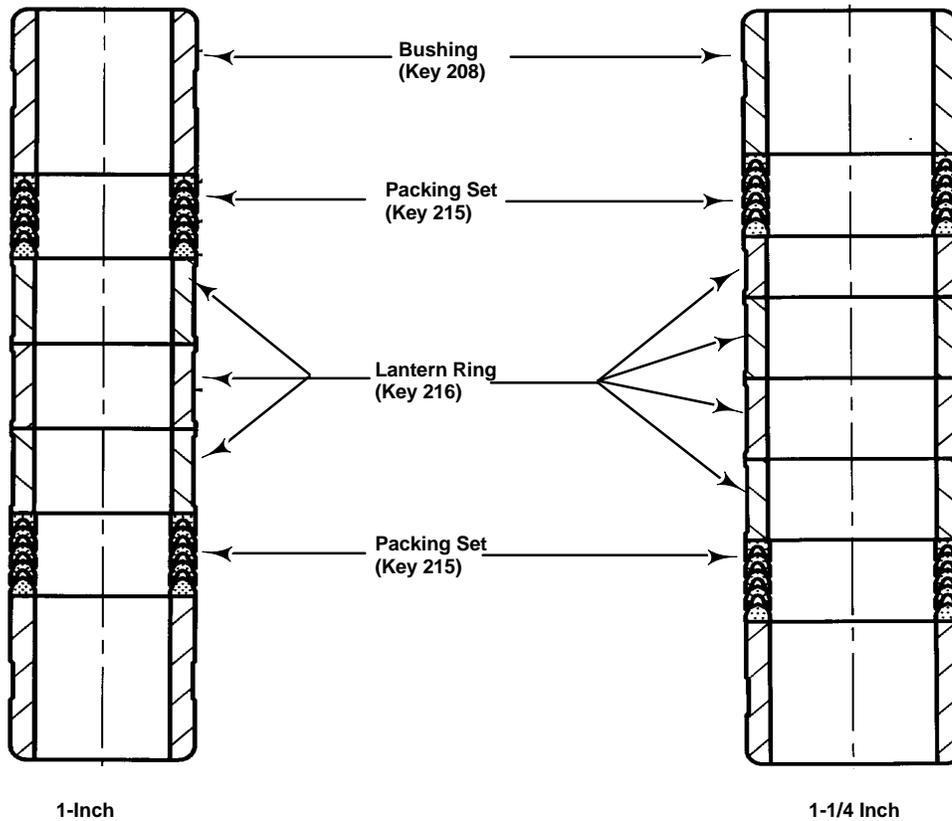

Figure 1.PTFE V-RING WITH ONE-PIECE BUSHING
3. Install new packing and the metal packing box parts according to the appropriate arrangement in figure 1. Place a smooth-edged pipe over the valve stem, and gently tap each soft packing part into the packing box, being sure that air is not trapped between adjacent soft parts.
4. Slide the bushing and packing flange (keys 208 and 201) into position. Lubricate the packing flange studs (key 200) and the faces of the packing flange nuts (key 212). Replace the packing flange nuts, but do not tighten.